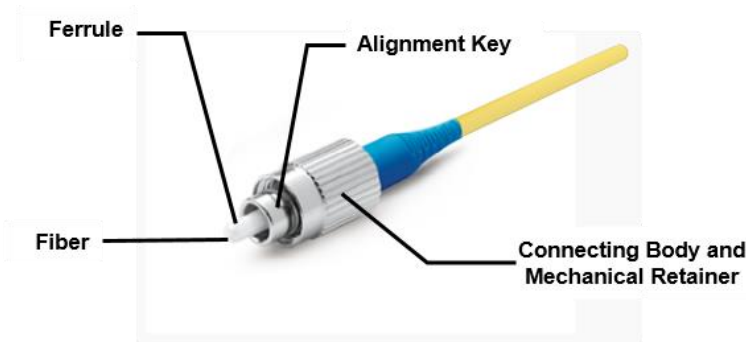

Figure 3.2: Basic Components of an FC/PC Fiber-Optic Connector
- 2 Connect your fiber-optic patchcord to the pre-aligned FC/PC fiber-optic connector on the instrument's front panel. Make certain that the alignment key on the fiber-optic patchcord's connector (Figure 3.2) is properly seated in the slot of the input connector.